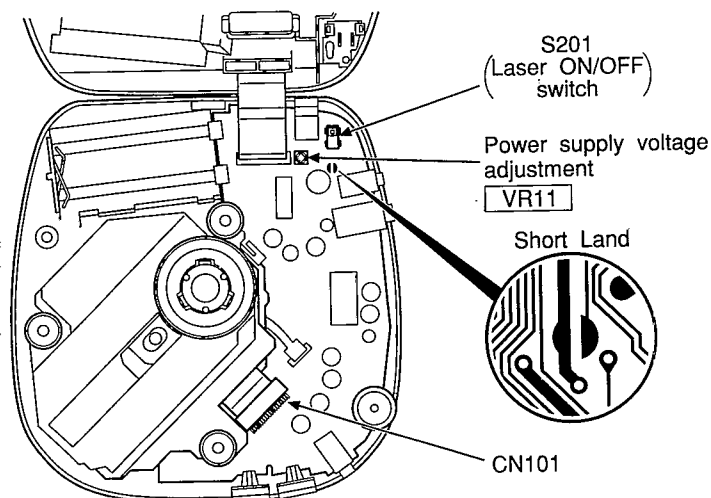

Fig. 1
Short-circuit the lands of the laser ON/OFF switch (S201) by soldering them. It turns “ON” position. (Refer to below **Fig. 1** or printed circuit board and wiring connection diagram for short land location on page 32.)
2. Take care to connect CN101 and CN102, as shown in **Fig. 1**.
4. Adjust **VR11** on the P.C.B. at **3.10 ~ 3.14 V**, as shown in **Fig. 1**.
Fig. 1 is a block diagram showing the compression-shockproofing mechanism, the difference of which from the conventional mechanism is as follows: Input information read out at double speed undergoes data compression (16 bits → 4 bits) by the encoder in the ADPCM (Adaptive Difference PCM) and stored in the external memory; the stored memory information undergoes data elongation (4 bits → 16 bits) by the decoder in the ADPCM and supplied at normal speed to the D/A converter.